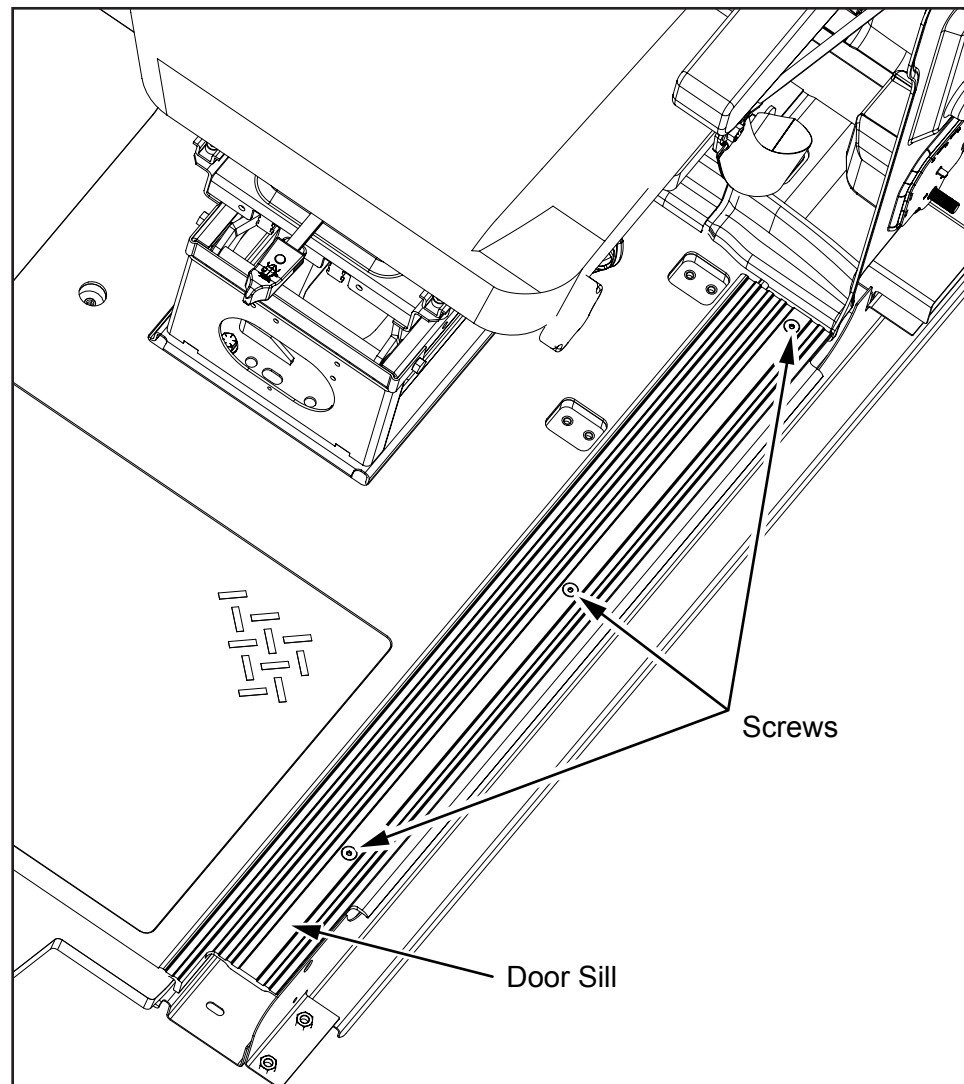

Figure 21
22. Using (3) screws, reinstall the door sill. Repeat step 22 for the opposite side (see Figure 21).